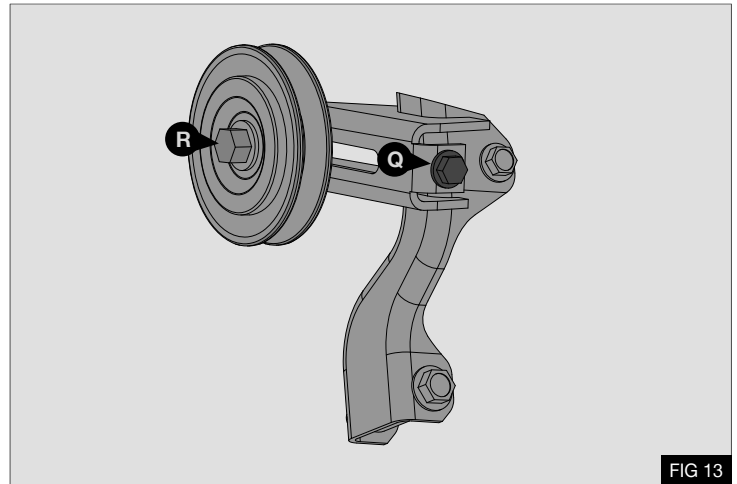

FIG 13
- Tension the drive belt using the adjuster bolt **Q**. When the correct tension (new belt level) has been achieved (see table above). Torque the tensioner lock bolt **R** to 27Nm / 20lb-ft. using a calibrated torque wrench - Fig 13